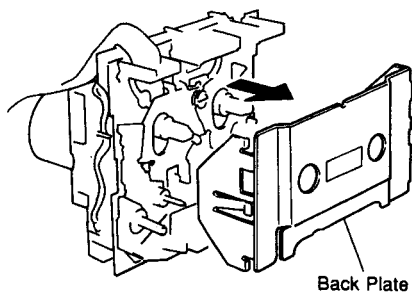

Fig. 5
- Pull out the Back Plate in Fig. 5.